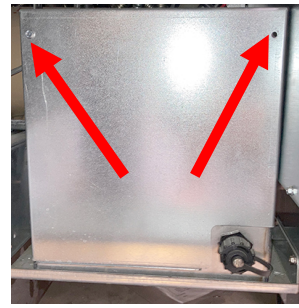

Figure 7
15. Remove the FIB box cover by removing the two (2) ¼" screws attaching the cover (see Figure 7).